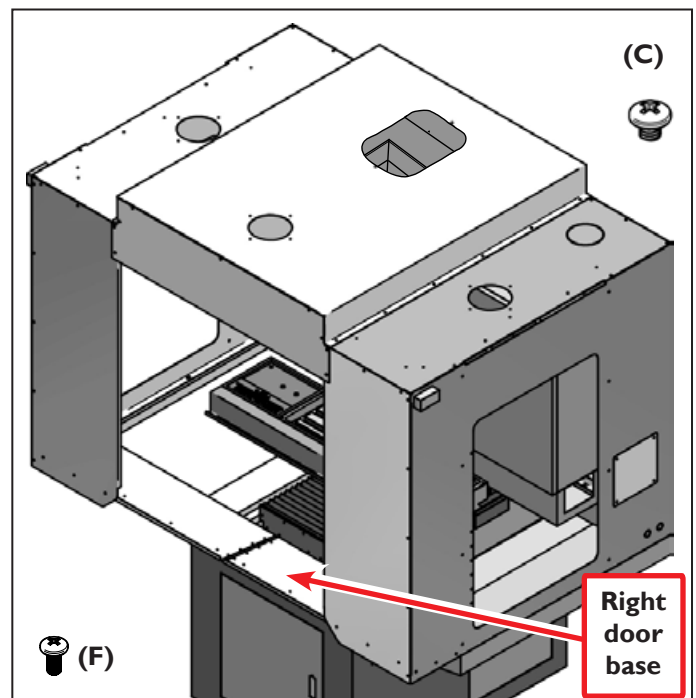

Figure 18
42. Place the Right Door Base (E.20) to where the large flange is inside of the chip pan (see **Figure 18**). Loosely fasten with (F) screws along the front left and left side panels. On the inside flange there is series of 1/4" holes. These holes are provided so you can drill and tap the chip pan using a .201" diameter drill bit and a 1/4-20 tap.
43. Once holes are drilled and tapped, fasten with (C) screws.